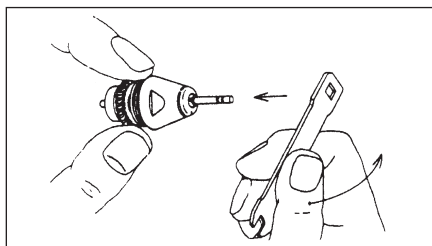

Fig.11
- 2) Hold the rotor with two fingers as shown on the Fig.11. Mount the wrench provided on the rotor nut located on the top of rotor shaft and turn counterclockwise. (Either side of wrench can be used.)